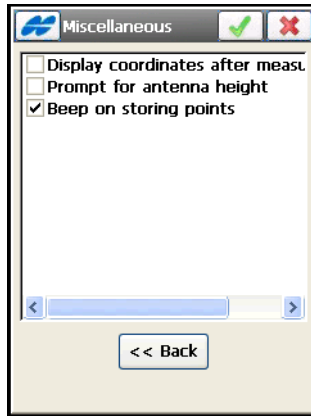

Figure 3-57. Miscellaneous
- **Next** – opens the *Miscellaneous* screen (Figure 3-57 on page 3-57).
The *Miscellaneous* screen (Figure 3-57) is used to customize the user interface using the following options: